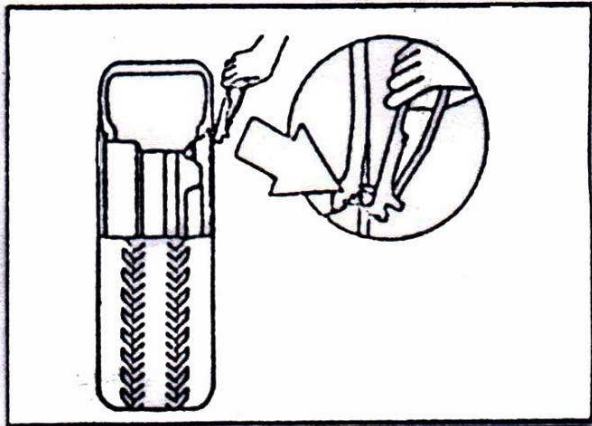

FIG 17
4.1.1 Deflate the air in the tire completely and pull out the core. Use the special tool to detach the weight on the rim ( FIG17).